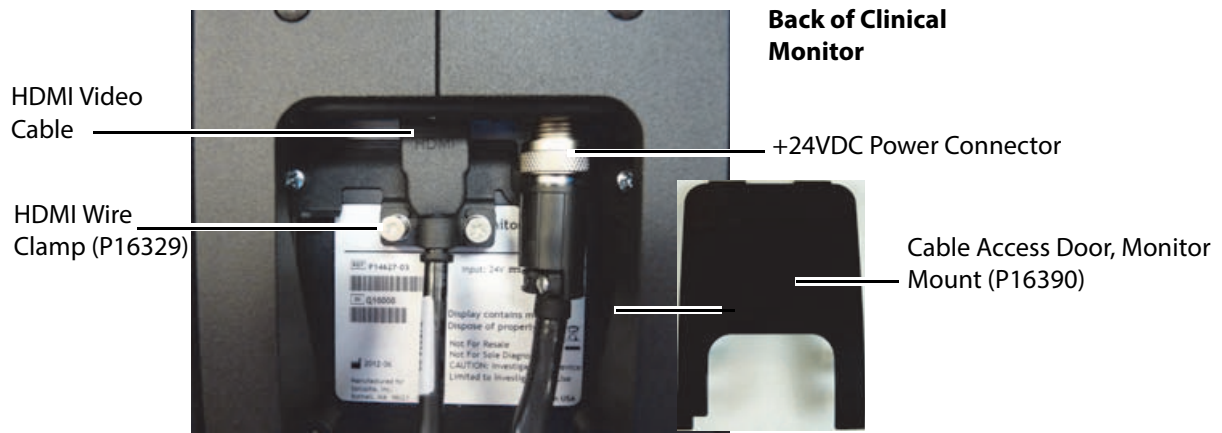

Figure 6.1 Clinical Monitor Cable Connections
- 3 Loosen the two screws and remove the HDMI video wire clamp and pull the cable connector downward to disconnect from the Clinical Monitor. Refer to Figure 6.1 on page 35.
- 4 Un-thread the outer ring of the +24VDC power connector and pull downward disconnecting from the Clinical Monitor. Refer to Figure 6.1 on page 35.